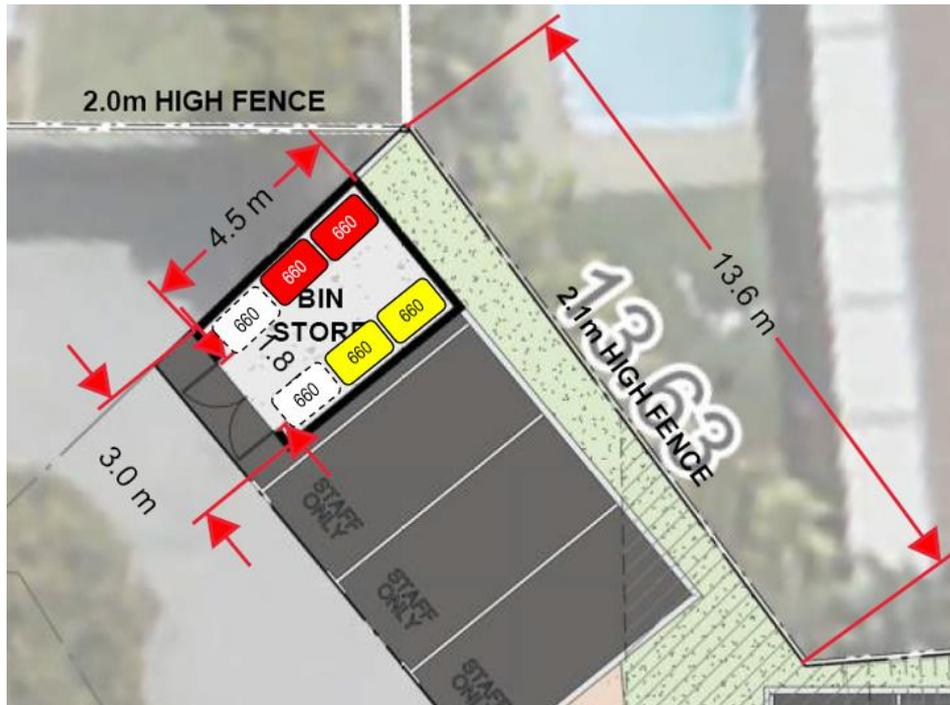

Figure 5 – Bin store showing space for up to six 660 litre MGBs and bin store dimensions (only 4 x 660L MGBs required)
The Development Drawing shows the provision of a Bin Store capable of accommodating up to six (6) x 660 L MGBs, as shown in the extract provided as Figure 5 below. Door/ gates comply with City of Joondalup requirement of an opening of at least 2.7 m with a preference for gates swinging outwards (4).